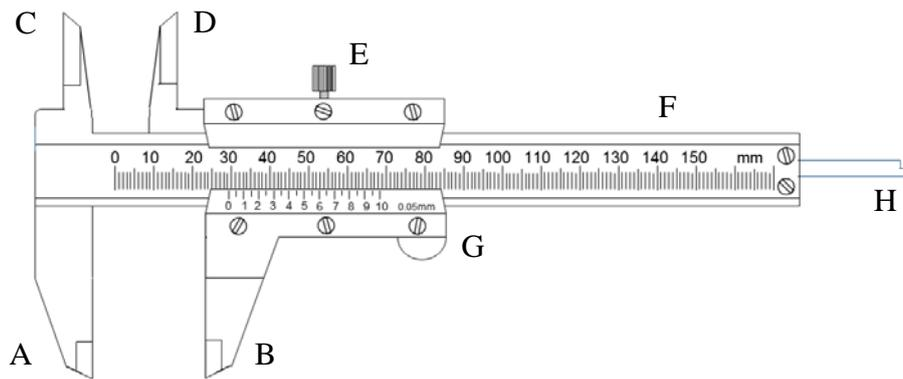

Figure 1. Vernier caliper
0.05 mm in accuracy for vernier caliper is shown in Fig.1. **F** is the main-ruler and **G** is the sub-ruler that is attached on main-ruler and able to slide. Pincers **A** and **B** are used for measuring the outer diameter of a cup; and pincers **C** and **D** are for measuring of the inner diameter of a cup. **H** is used for measuring the depth of a container. Nut **E** can fasten the sub-ruler on the main-ruler.